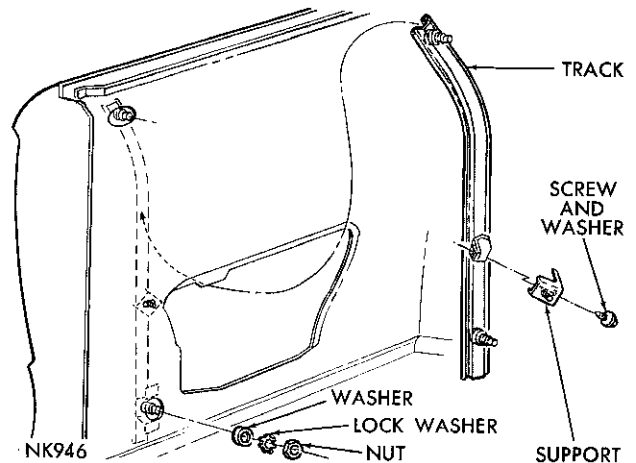

Fig. 105—Quarter Window Front Track (Chrysler Convertible)
- (1) Remove the regulator handle, trim panel and watershield.
- (2) Remove the glass and lower frame assembly.
- (3) Remove the adjusting stud nut and washers from the lower end of the track (Fig. 105).
- (4) Remove the center support nut and washer.
- (5) Remove the track upper adjusting stud nut and washers.
- (6) Remove the track and center support assembly out of the quarter panel through the large access opening.
- (1) Position the track and center support assembly into the quarter panel through the large access opening and insert the studs into the openings in the inner panel (Fig. 105).
- (2) Install the track upper adjusting stud nut and washers finger tight only.
- (3) Install the center support nut and washer finger tight only.